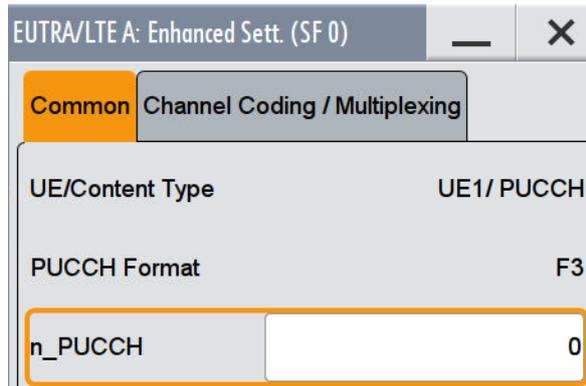

Fig. 3-126: Set the parameter n_PUCCH to 0
8. Set the resource index **n_PUCCH** to 0. (Fig. 3-126)